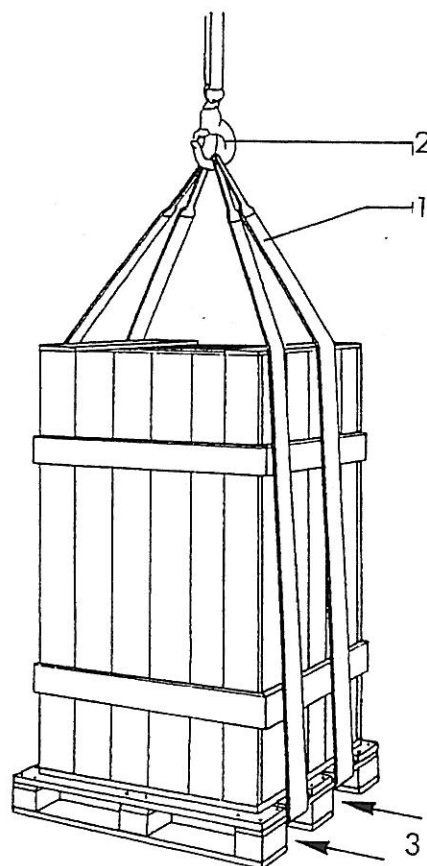

Fig. 6.1
- Insert the straps 1 fig. 6.1 under the crate and insert them in the hook of crane 2 fig. 6.1.
- Insert the forks of the fork lift truck in the appropriate spaces 3 fig. 6.1 and lift slowly just a few millimetres to check load balance.